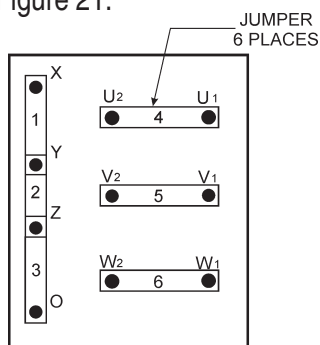

Figure 21. Voltage Change-Over Board
1. Jumper the voltage change-over board for 240V operation as shown in Figure 21.
1. Make sure the voltage change-over board is jumpered for 240V operation as shown in Figure 21.